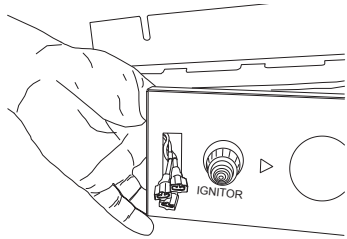

Figure 33 - Inserting Rocker Switch Wires (Hole Location Varies by Model)
17. Feed the AUTO, OFF, MAN connectors through the rocker switch hole on the left side of the control panel (see Figure 33).